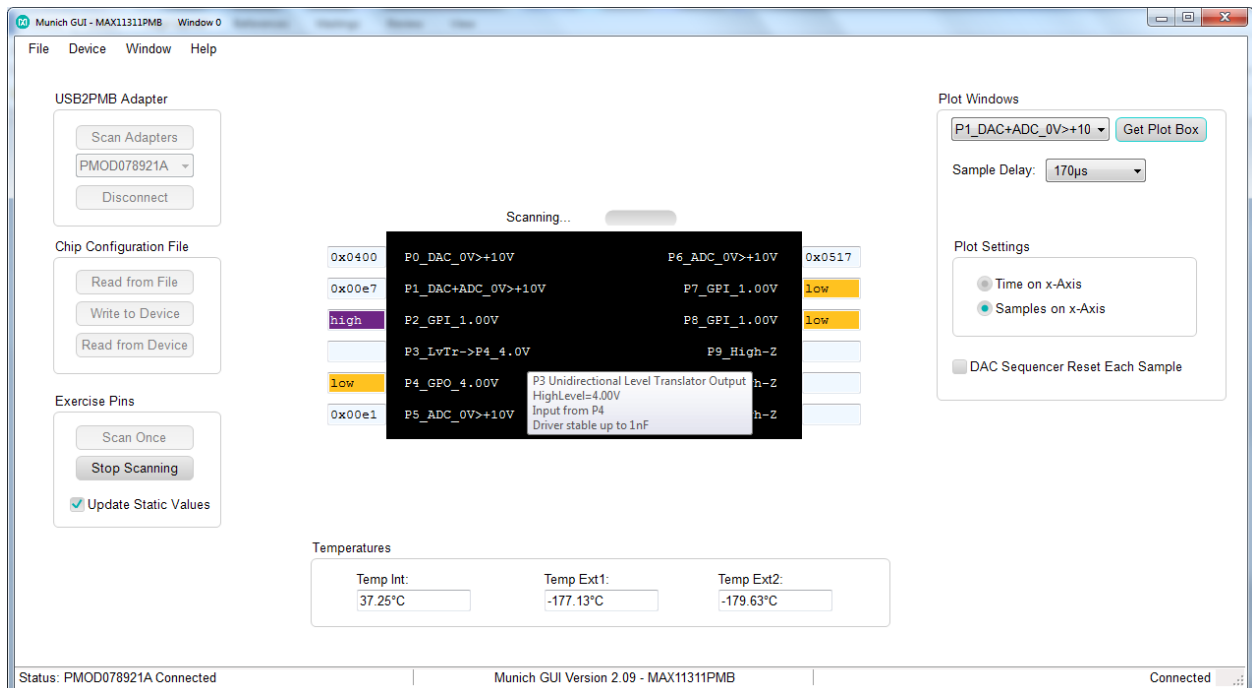
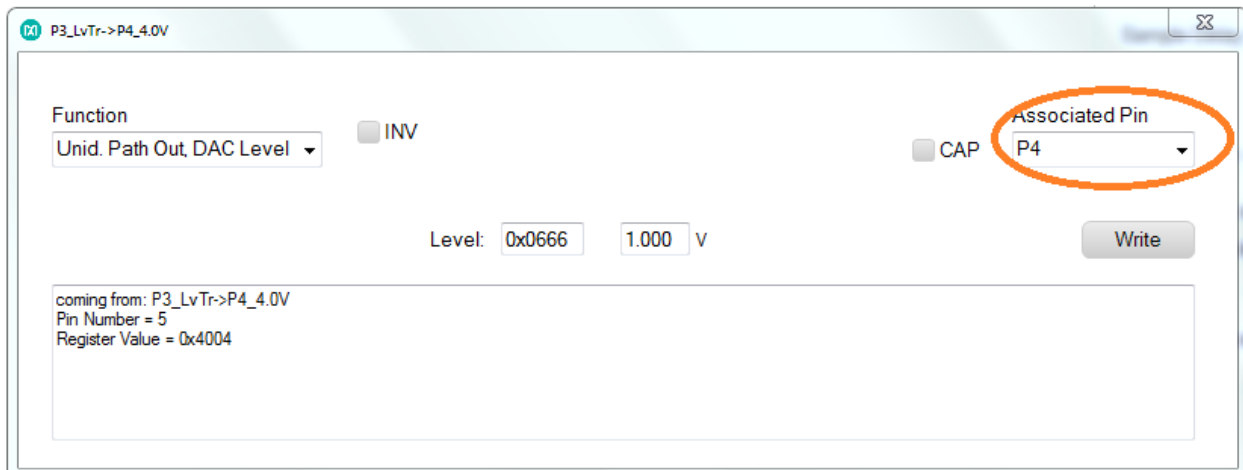

Figure 33. Click on Output of level translator.
Figure 34. Pin description of P3.
2. Click P3_LvTr->P4_4.0V as shown in **Figure 33** below, a separate window of pin description for Pin3 will pop up as shown in **Figure 34**, under the associated pin tap, choose P4 (this is due to the limitation of GUI). The real pin number is listed on the pin description.